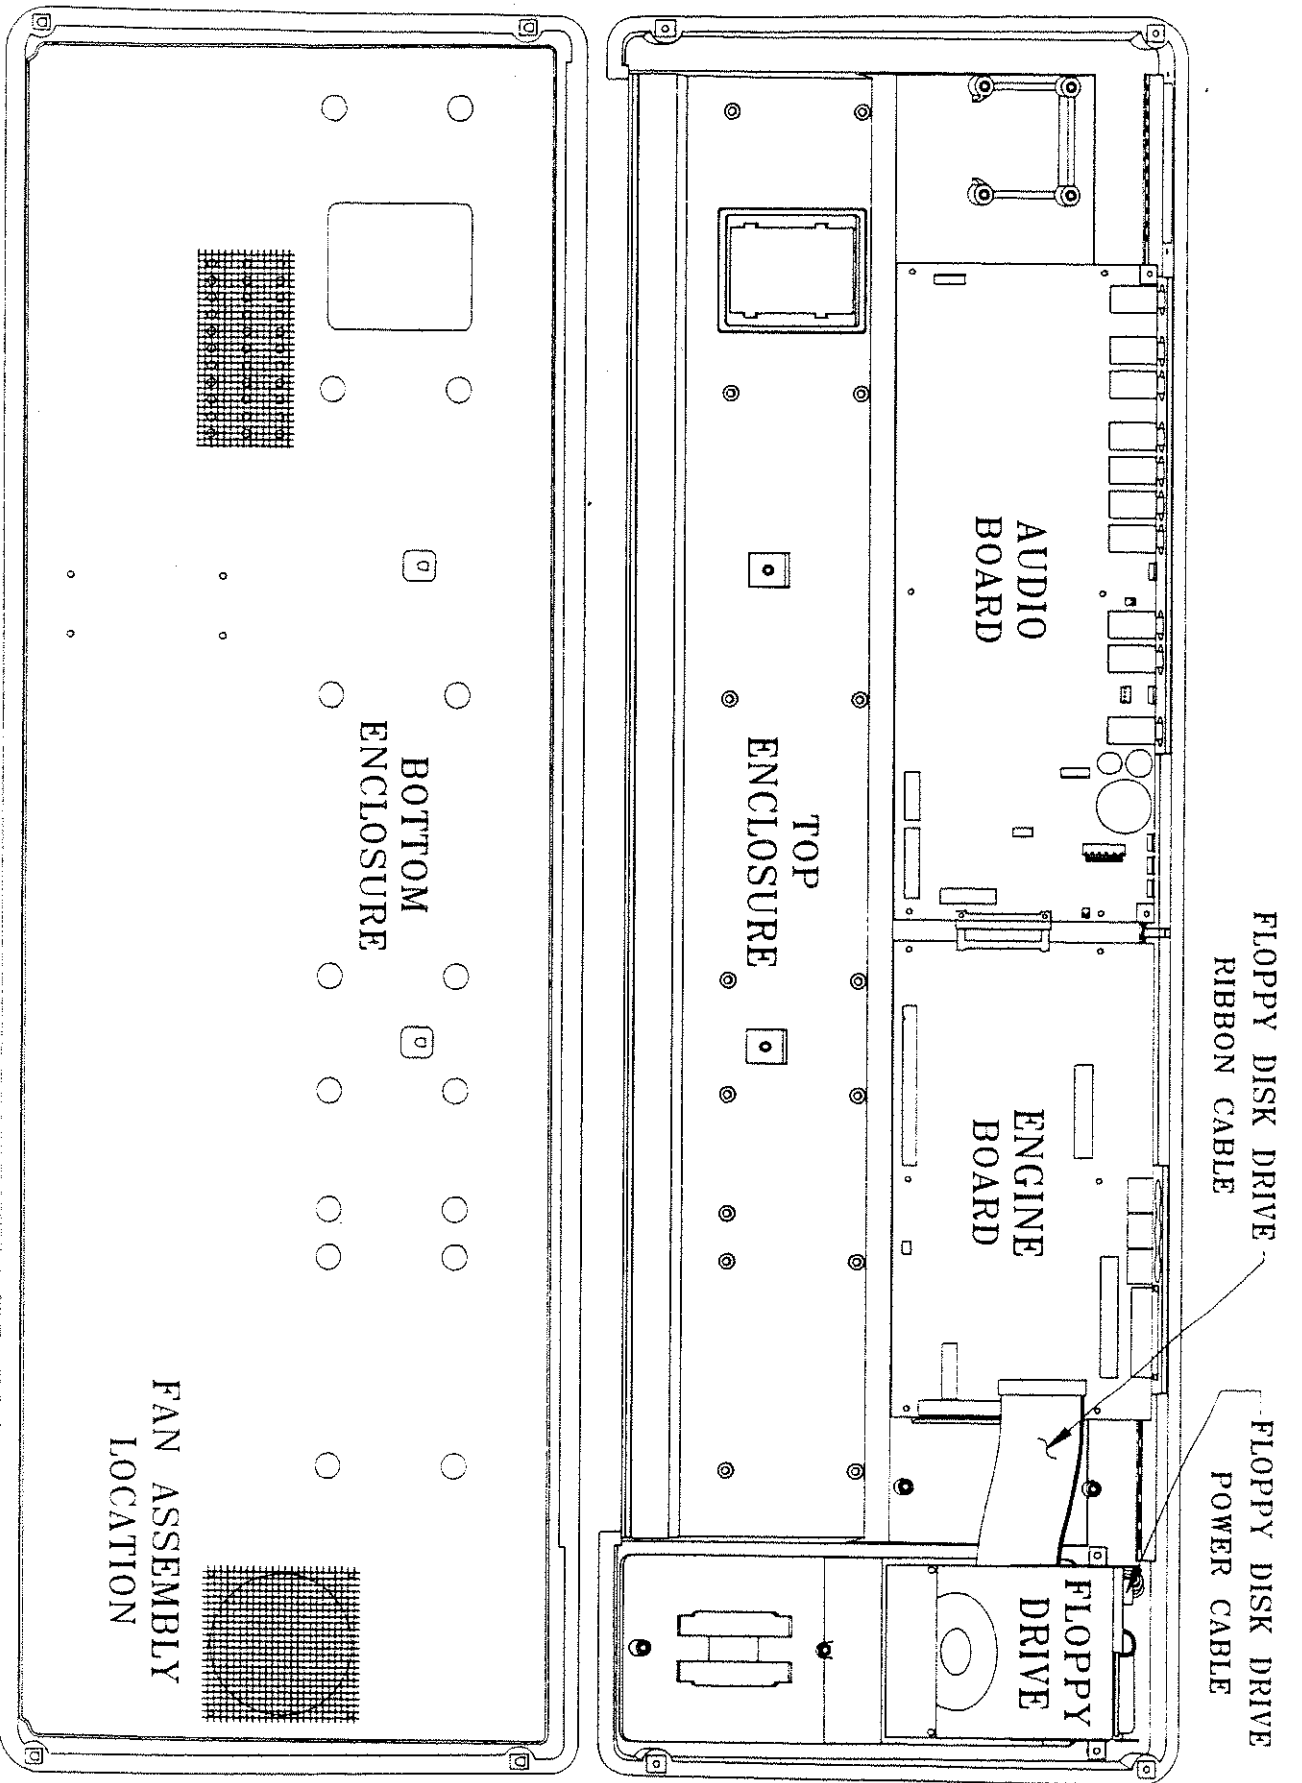

FIGURE 1
4. Slide the unit away from you and remove the bottom enclosure, rotating it toward you. Place it on your work surface so that the inside of the bottom enclosure faces up. The back of the enclosure should be toward you, as shown in figure 1 (the KURZWEIL logo should be facing you).
6. Locate the circular fan vent opening toward the right of the bottom enclosure, as shown in figure 1. The fan vent opening is covered with a square wire screen.